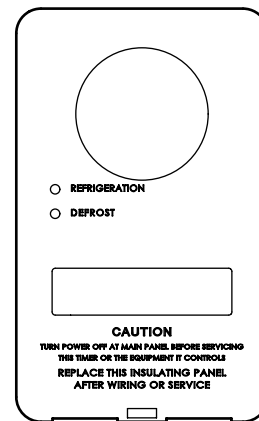

FIG. 2 Existing Dead Front
5. If applicable, remove and discard the existing dead front cover. See FIG. 2.